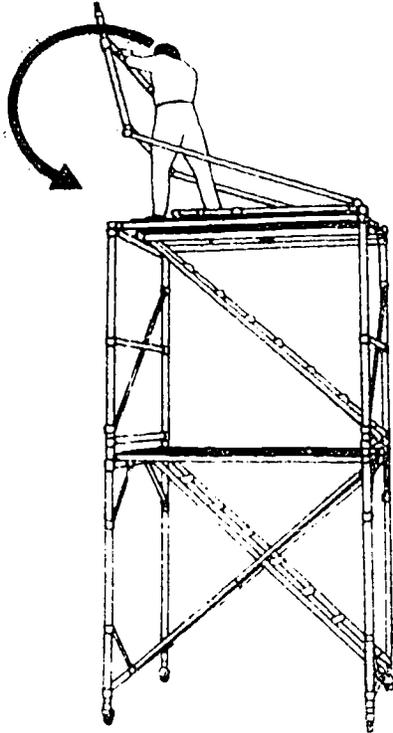

FIGURE 26. Unfold lower end frame of stairway railing through 270°
j. Place the folded half-section of safety railing on top. Unfold the end frame through 270°, as shown in Figure 26 and slip the end frame into the sockets.